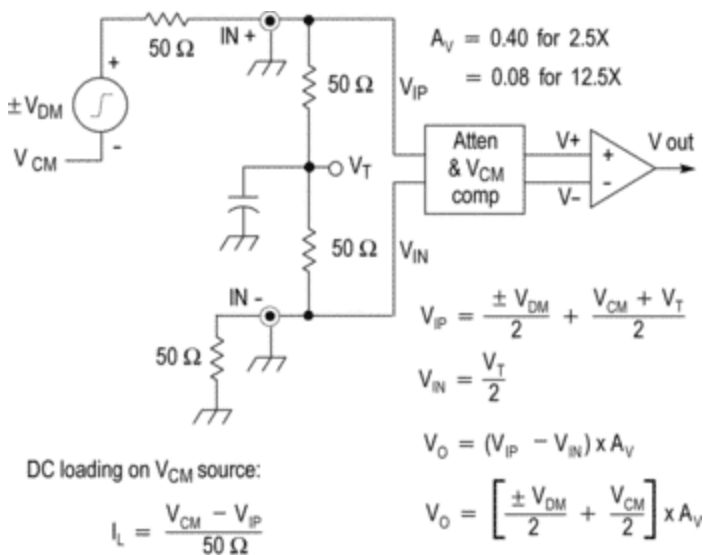

Figure 9: 50 ohm termination on (-) input
**50 Ohm Termination on (-) Input.** A single-ended measurement topology with a 50 Ω termination on the probe (-) input is shown. (See Figure 9.) The general equations that describe the response of that topology are also shown, including DC loading on the signal source.
An HDMI signal may also be measured using the single-ended measurement topology with a 50  $\Omega$  termination on the probe (-) input. (See Figure 9 on page 12.) Using this topology, the HDMI signal will be attenuated to half size, both the DC termination voltage and the HDMI switching signal. With this topology, the P7313SMA probe must be set to the 12.5X setting to provide sufficient single-ended measurement dynamic range. There is not enough dynamic range available with the P7313SMA probe to make single-ended HDMI measurements with the shorting termination on (-) input topology.